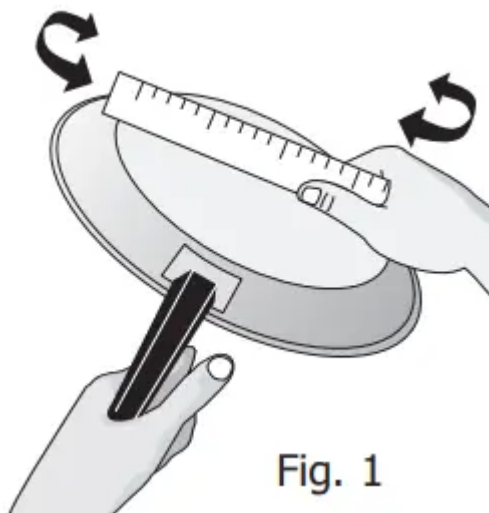

Fig. 1
4. Assemble one connector arm at a time. With the oven door open and the oven rack in place, install one end of the connector arm to the hole in the door connector bracket (Fig. 1) and the other end in the hole in the rack connector bracket (Fig. 2 and as in Fig. 3). The oven rack may need to be adjusted in or out in the rack position to match the length of the connector arm.
For best cooking results, cookware should have flat bottoms that rests level on the burner grate. Before using cookware, check for flatness by rotating a ruler across the bottom of the cookware (Fig. 1).